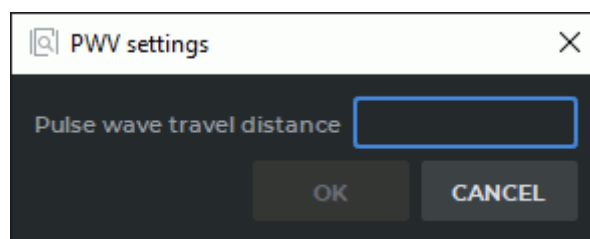

Figure 2.52: The dialog box for providing the pulse wave travel distance value
2. Go to the **PWV** tab. When you first click on the «**PWV**» tab the **PWV settings** dialog box is displayed Fig. 2.52).
3. In the **PWV settings** dialog box (Fig. 2.52), enter the pulse wave travel distance value (in millimeters).
you have not provided the pulse wave travel distance value in the dialog box (Fig. 2.52), the **OK** button will be inactive.